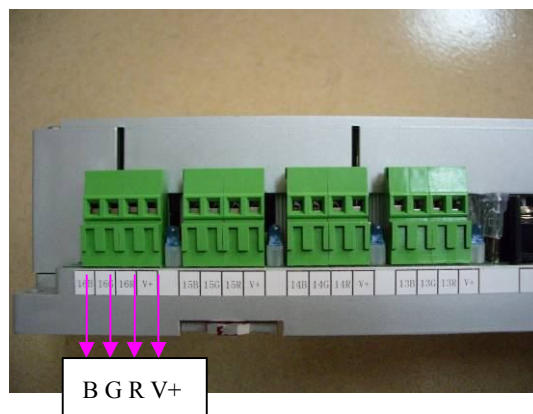

Figure 2
1. Connect the LED light source to the controller terminals of R, G, B, V+ in order, from the first pixel to the sixteenth pixel one by one. There are detailed indicators on outer case of the controller, see figure 2.